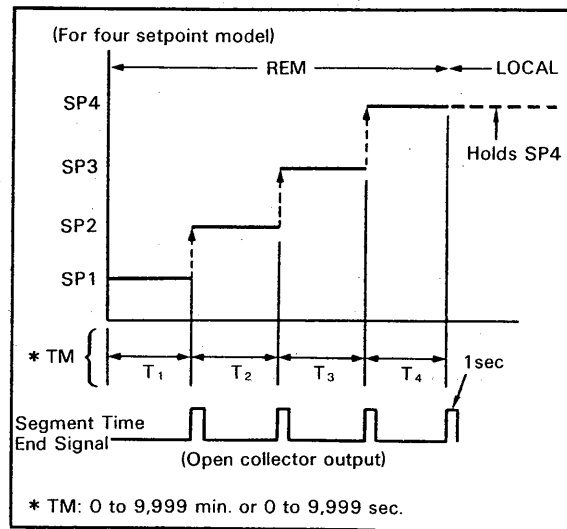

Figure 9.1
- When the option **RMSR** is specified, ratio, ratio bias, and square root extraction can be set to the remote setpoint input. Refer to ratio (RT) and ratio bias (BS) of the basic parameters and remote setpoint input square root extraction (R-7) and remote setpoint input square root low cut (R-8) of the engineering parameters respectively (see Ch.8 PARAMETERS LIST).
If the option **SPEX** is specified, operation is controlled by automatically transferring sequentially to each target setpoint [1.SP to 4.SP for four setpoint model and 1.SP to 8.SP for eight setpoint model] at each target setpoint holding time (TM) (of SET parameters) and correct time unit (E-6) (of engineering parameters). When a target setpoint is transferred, "segment time end signal" of one second is output from the terminals ⑩ and ⑪ (see Figure 9.1). (When the target setpoint (SP) is transferred, SET parameters including that SP are transferred on the set basis.)